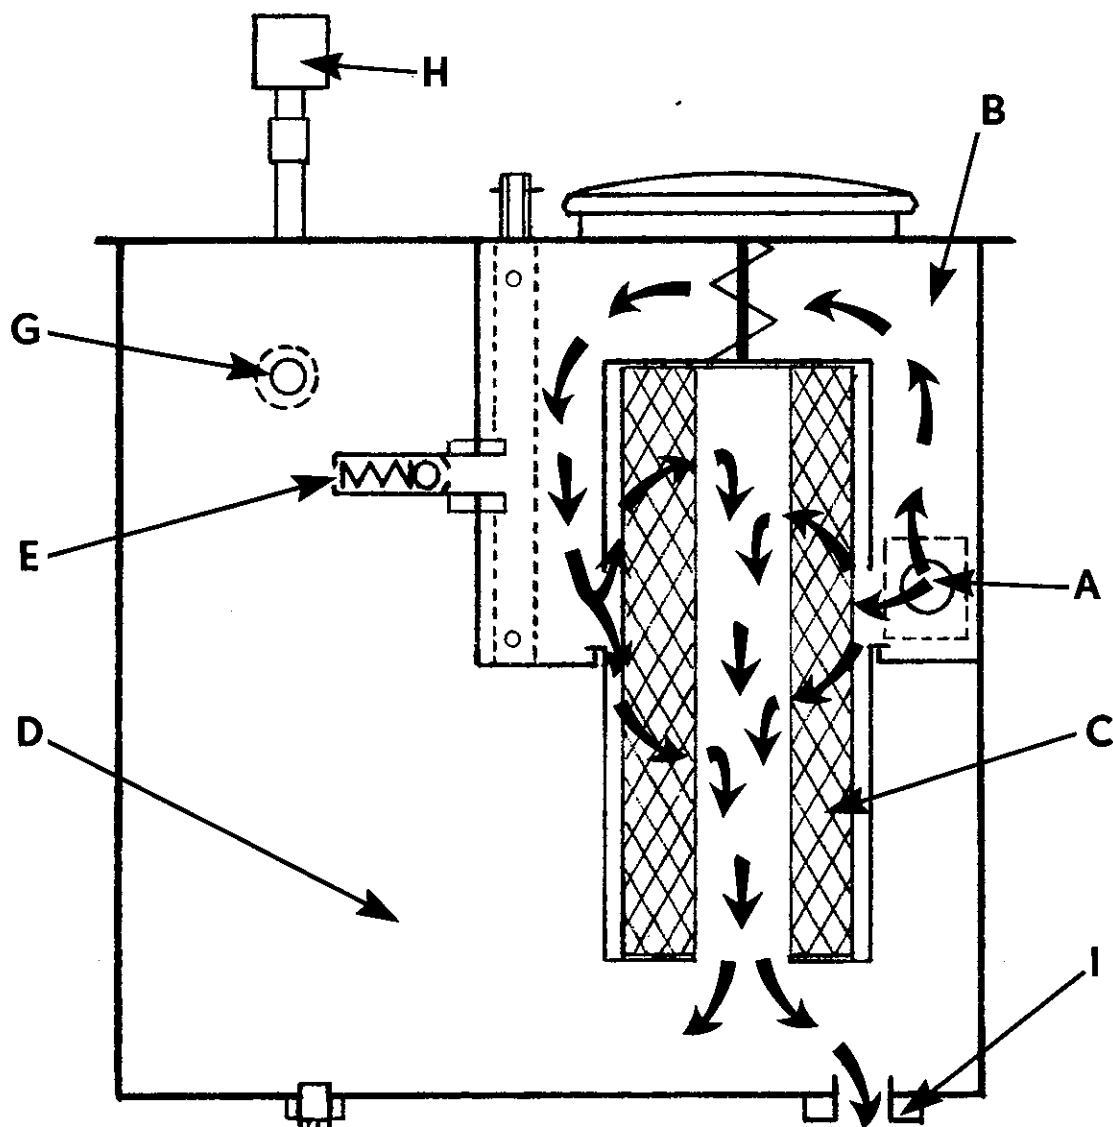

Fig. 2
The flow of the fluid through the tank occurs at a very rapid rate when the hydraulic pump is at full output. Return oil lines from both manifold and steering circuits meet at the return line adaptor block mounted directly to the hydraulic tank. (Circle reverse and mechanical side shift hydraulic motor case drain leakage line(s) would also join with steering and manifold return oil at this adaptor block.) From the adaptor block oil passes through port (A) and into compartment (B) of the hydraulic tank. (See Figure 2)